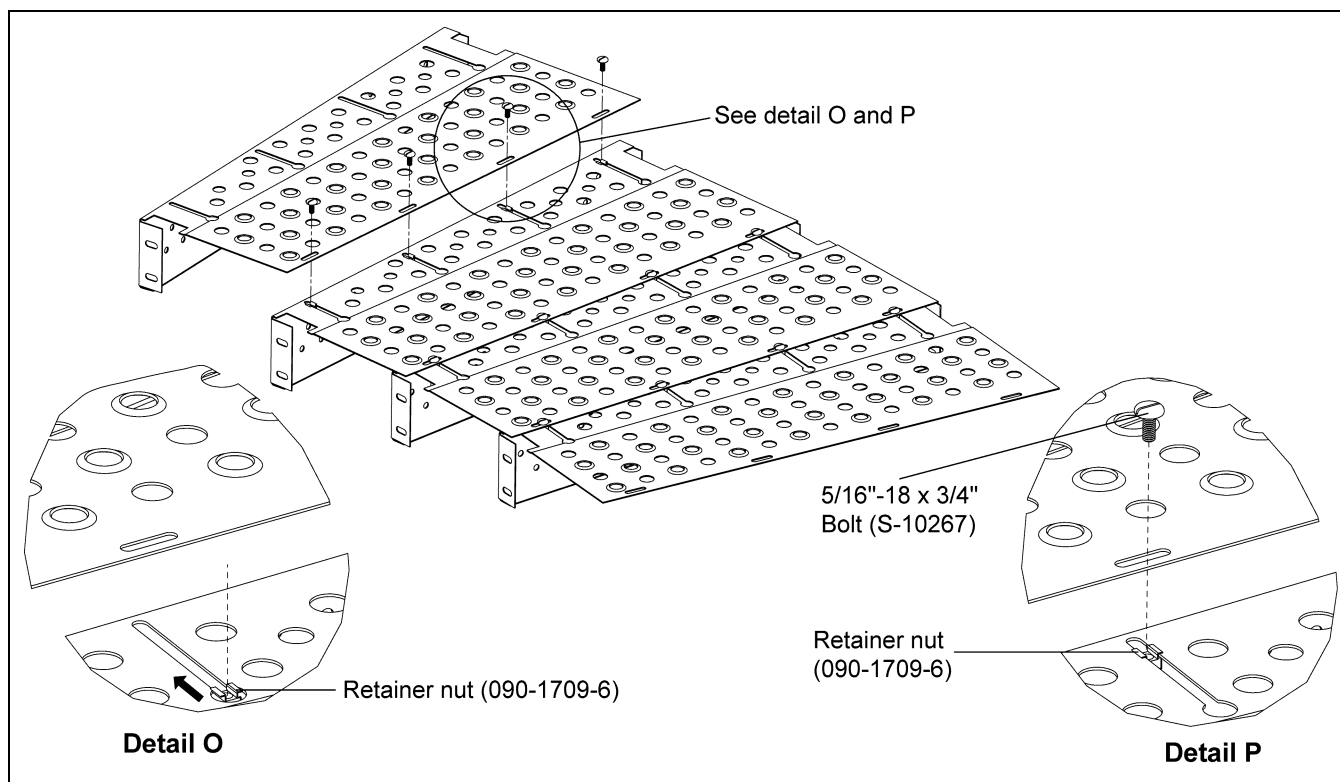

Figure 4AA
2. Place the following plank over the installed plank and bolt to the retainer nut (090-1709-6) using 5/16"-18 x 3/4" bolt (S-10267) as shown in the detail P of Figure 4AA.